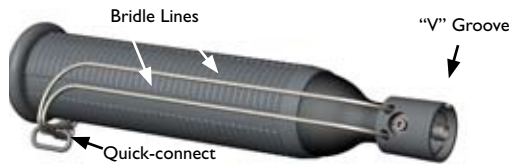

Figure 16a - Projectile with Bridle Line
1. Pull the quick-connect that connects the bridle lines to allow the projectile to find the center-point of the bridle lines. (Fig. 16a)